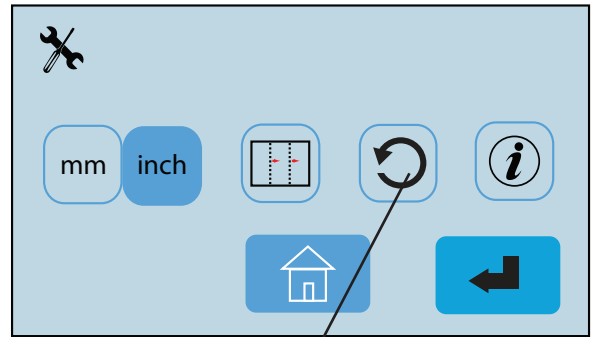
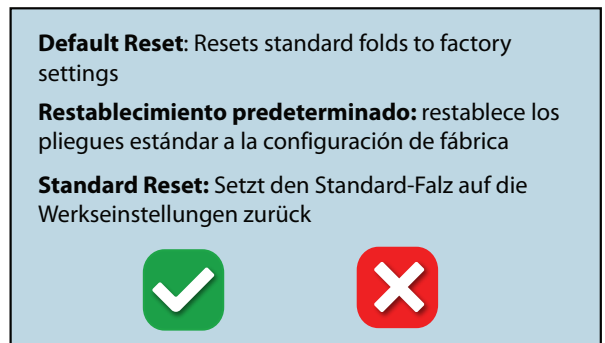

Fig. 30 Default setting Icon
Fig. 31 Default setting confirmation screen
1. From the Operator Settings screen press the Default Settings icon  (Fig. 30). A confirmation screen will come up (Fig. 31). Press the green box with the check to confirm or the red box with the X to cancel the setting.